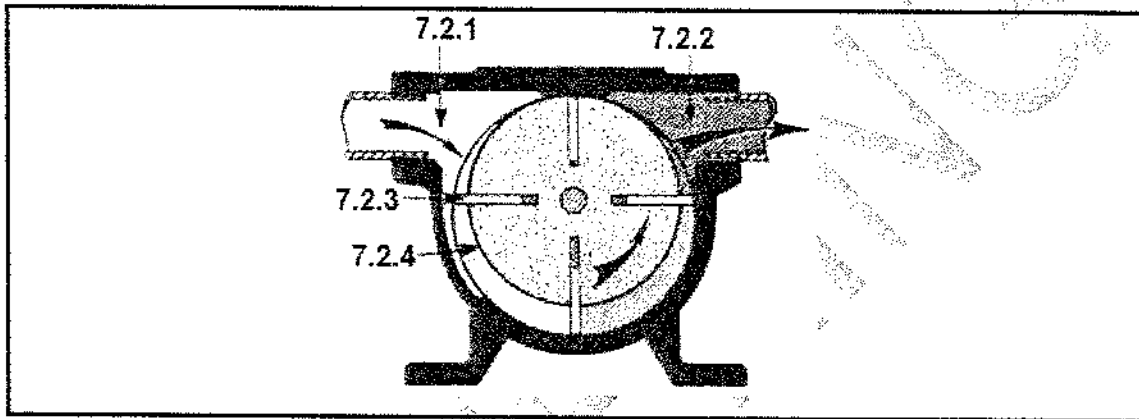

FIGURE 4
7.2 FIGURE 4 shows a sketch of a vane pump.